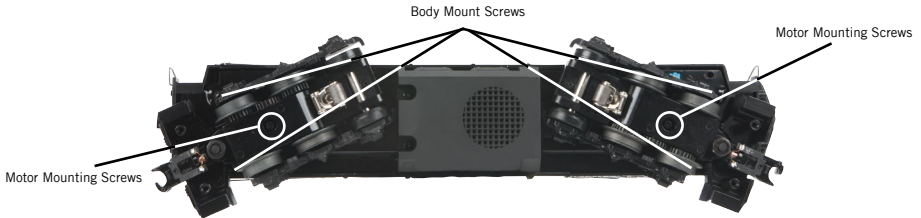

Figure 7: Body Removal Screw Locations and Motor Mounting Screws
1. To access the gear box, remove the cab from the chassis by unscrewing the body mount screws as seen in Figure 7 and lifting the cab from the chassis.
2. Once the cab is removed, remove the trucks by unscrewing the black Phillips motor mount screw located on the underside of the drive trucks (see Fig. 7).
First, remove the trucks from the chassis by unscrewing the body mounting screws as noted in Figure 7. Next, remove the trucks from the chassis by unscrewing the truck mounting screw also noted in Figure 7. Finally, turn the removed truck over and locate and remove the truckside screws to gain access to the drive wheel traction tires behind the trucksides.